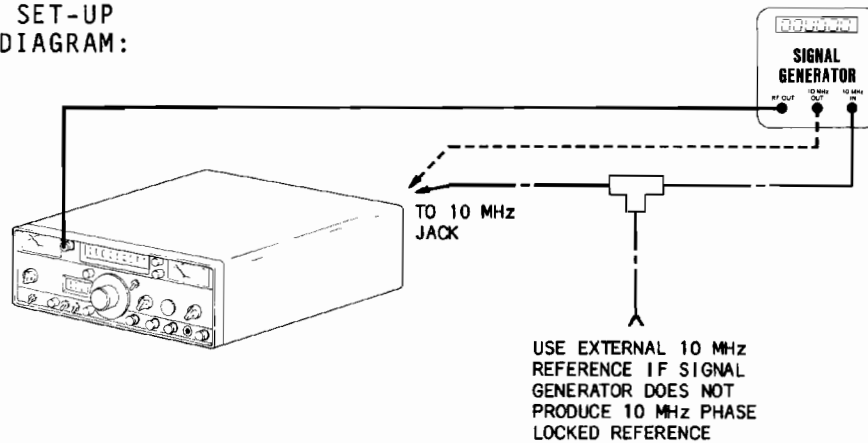

Figure 3-5 Frequency Error Meter Lab
1. Connect FM/AM-500A to accessory test equipment as shown in Figure 3-5.
2. Verify FREQ ERROR Meter (21) indicates 0 Hz ( $\pm 0$  Hz).
4. Set Power Switch (17) in "LINE" position. Verify FREQ ERROR Meter (21) indicates -300 Hz ( $\pm 18$  Hz).
5. Rotate VAR TONE FREQ Thumbwheels (18) to "1030.0".
6. Rotate Frequency Error Meter Range Switch (19) to "AUDIO 30". Verify FREQ ERROR Meter (21) indicates -30 Hz ( $\pm 1.8$  Hz).
7. Rotate VAR TONE FREQ Thumbwheels (18) to "1003.0".
8. Rotate Frequency Error Meter Range Switch (19) to "AUDIO 3". Verify FREQ ERROR Meter (21) indicates -3 Hz ( $\pm 0.18$  Hz).
9. Rotate VAR TONE FREQ Thumbwheels (18) to "1000.0". Verify FREQ ERROR Meter (21) indicates 0 Hz ( $\pm 0.18$  Hz).
10. Rotate VAR TONE FREQ Thumbwheels (18) to "0997.0". Verify FREQ ERROR Meter (21) indicates +3 Hz ( $\pm 0.18$  Hz).
11. Rotate VAR TONE FREQ Thumbwheels (18) to "0970.0".